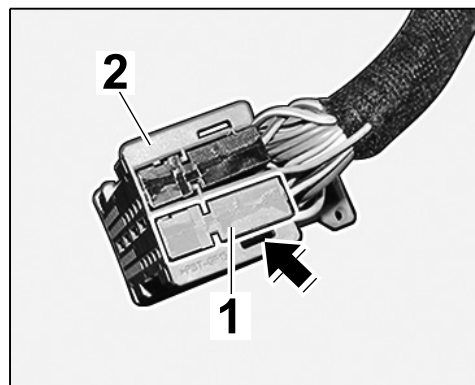

Figure 30
- 3.3.4 Slide grey plug socket $\Rightarrow$ Figure 30 -1- into the plug carrier $\Rightarrow$ Figure 30 -2- until the locking mechanism $\Rightarrow$ Figure 30 -arrow- engages.